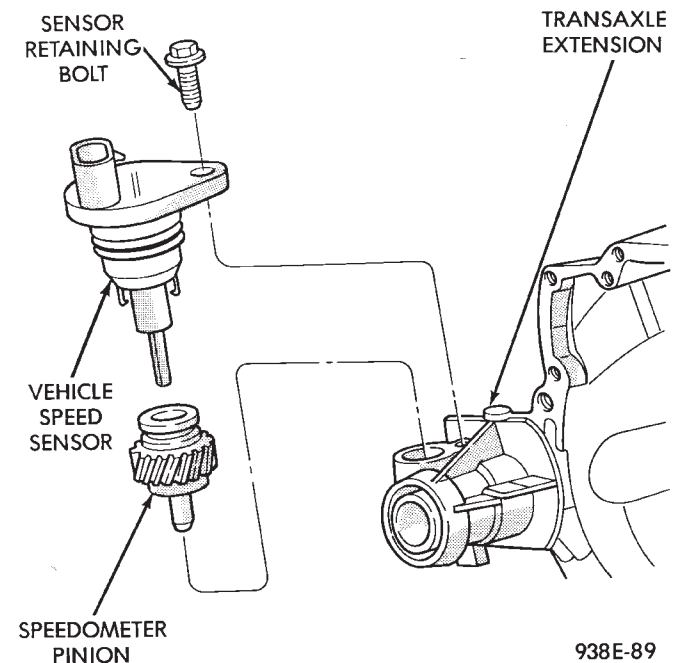

Fig. 20 Vehicle Speed Sensor and Speedometer Pinion
(2) Remove sensor retaining bolt.
(3) Pull sensor and pinion gear assembly out of transaxle. If necessary, carefully pry loose with a flat blade screwdriver (Fig. 20).